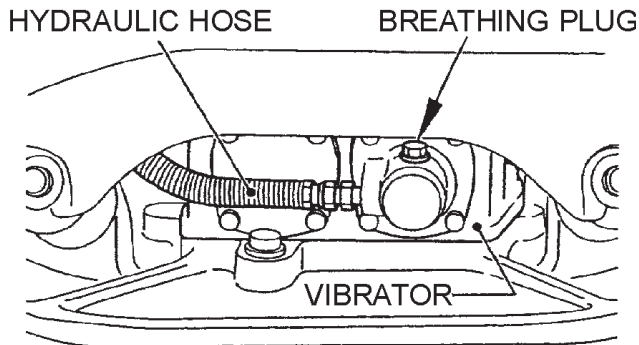

Figure 19. Hydraulic Hose
1. After removing plug cap of hand pump (Figure 7), remove plug of breather (24 mm wrench) and disconnect vibrator side of hydraulic hose (Figure 19) at vibrator cylinder. With travel lever placed in the FORWARD position, drain hydraulic oil in the pump.